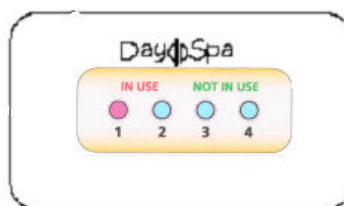

Figure 14
2. **Room Availability:** Available room will be indicated by a green light corresponding to the appropriate steam room number. Occupied (in use) steam room will be indicated by a red light. (figure 14)